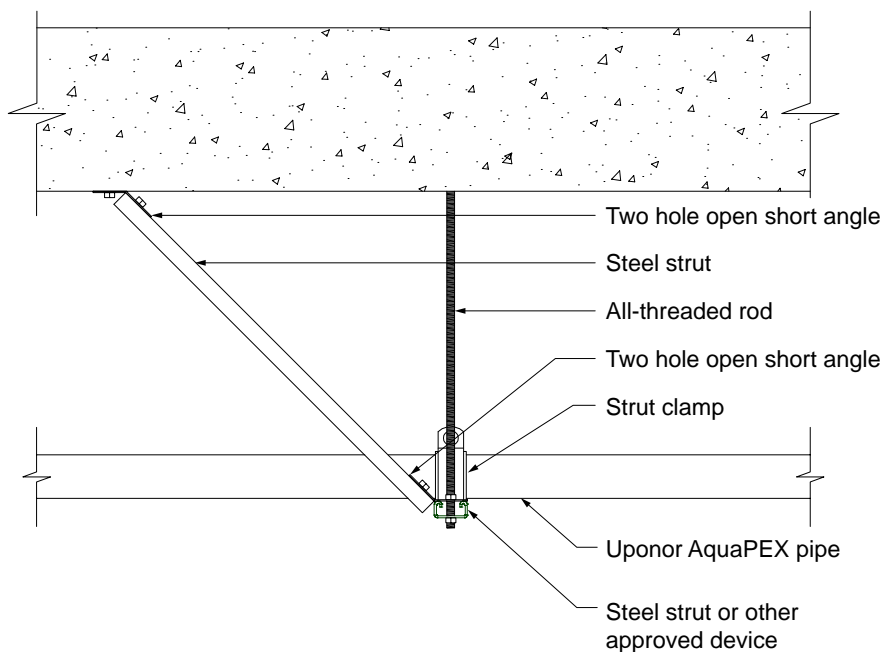

Figure 5-6: Fixed anchor point
- Constructed with materials that provide rigidity (see **Figure 5-6**)